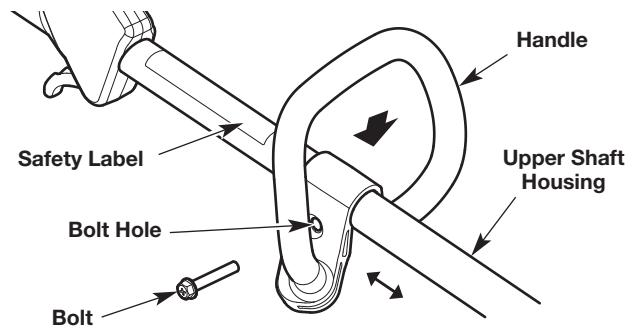

Fig. 5
1. Push the handle down onto the upper shaft housing (Fig. 5). Make sure the bolt hole faces to the right (Fig. 5).
2. Insert the bolt into the bolt hole and push it through (Fig. 5). Tighten the bolt with a flat-head screwdriver, but do not tighten the bolt completely.
3. Hold the unit in the operating position (Fig. 13). Move the handle up or down the upper shaft housing to a comfortable location (Fig. 5). Make sure the handle is positioned beyond the end of the safety label (Fig. 5).
1. Loosen the bolt with a flat-head screwdriver (Fig. 5).
2. Hold the unit in the operating position (Fig. 13). Move the handle up or down the upper shaft housing to a comfortable location (Fig. 5). Make sure the handle is positioned beyond the end of the safety label (Fig. 5).